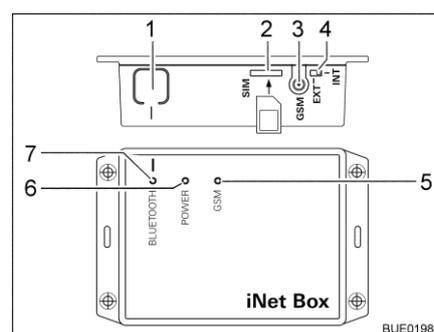

Fig. 109 Truma iNet-Box
- Press the BLUETOOTH button (Fig. 109,1) on the iNet-Box for 1 second. The Truma iNet-Box will be visible in the mobile terminal for approx. 2 minutes (name: "Truma iNet-Box"). During this period, the blue BLUETOOTH LED (Fig. 109,7) will be flashing.
- Carefully insert the mini SIM card with own telephone number and sufficient credit into the slot (Fig. 109,2) of the Truma iNet-Box as shown until it engages. The red GSM LED (Fig. 109,5) must be flashing continuously. If the red LED goes out after 20 seconds: Check mini SIM card.